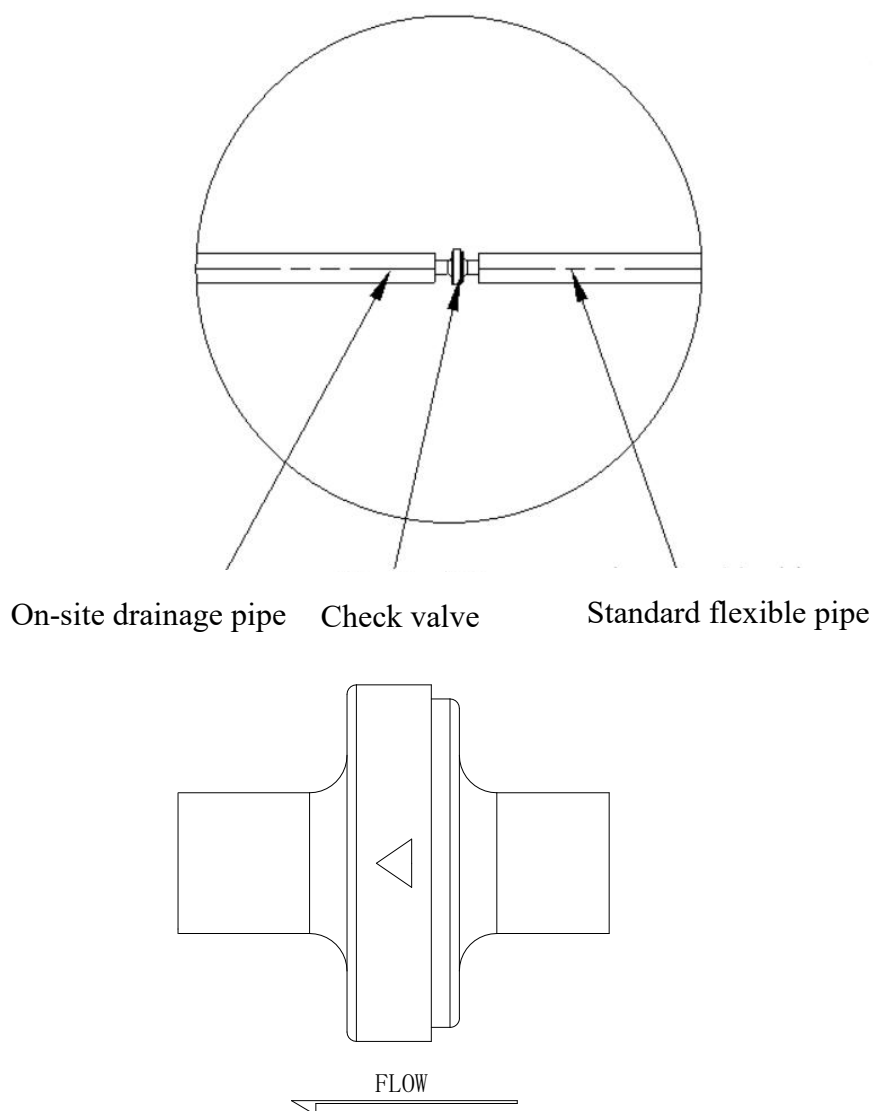

Fig. 3-5 Diagrammatic Sketch of the Installation Direction of Check Valve
2. Check valve must be connected in the indicated direction, as shown in Fig. 3-5.